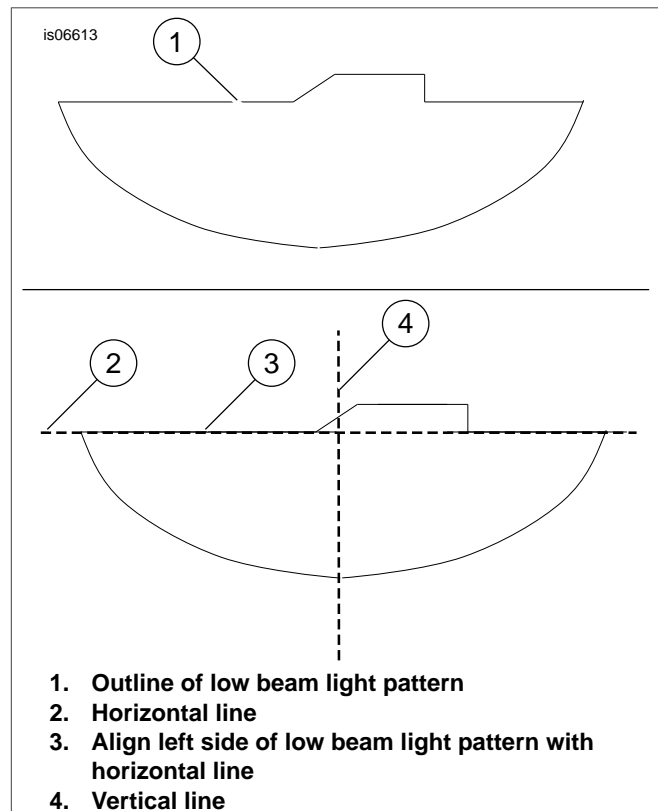

Figure 4. Alignment of Headlamp Low Beam
- See Figure 4. Align the left side of the horizontal line of the **low beam** light pattern (3) with horizontal line (2) drawn on the wall. If necessary, adjust the headlamp position by following the adjustment procedure in the service manual.